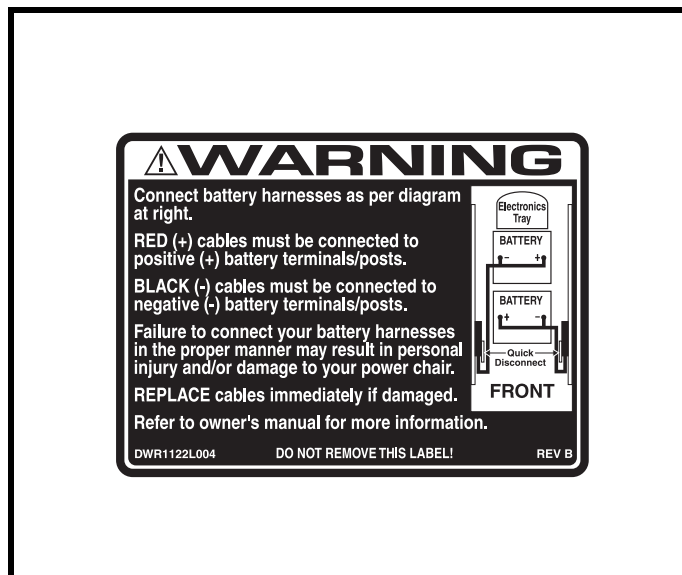

Figure 28. Battery Wiring Diagram Label
A diagram is printed on a decal located on the power chair frame near the battery tray. See figure 28. See the specification table for correct battery specifications.
8. Reinstall the wiring harnesses on each battery. Make sure that you connect the red wire to the positive (+) battery terminal and the black wire to the negative (-) battery terminal. See figure 28.
10. Connect the battery quick disconnects according to the battery wiring diagram label. See figure 28.